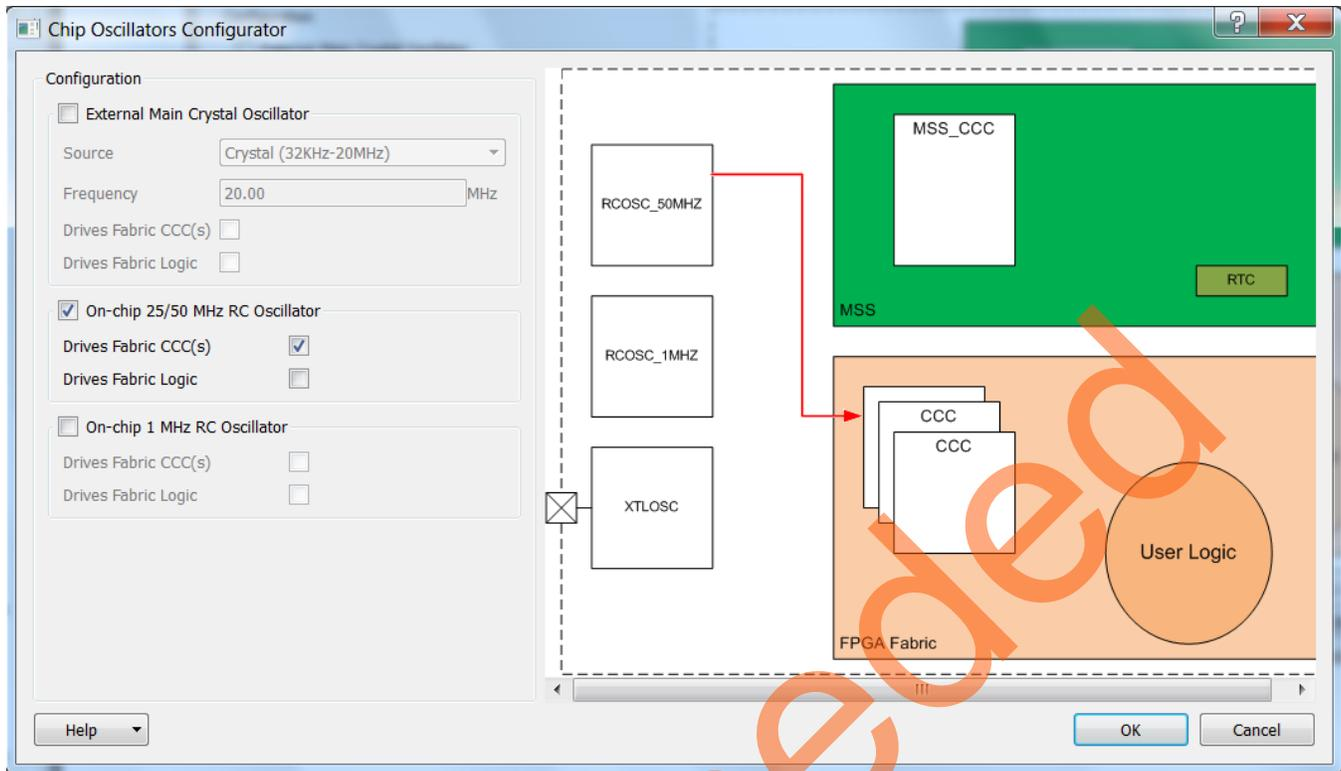

Figure 22. Oscillator Configuration
5. Drag the **Chip Oscillators** IP from the Clock & Management sub-section of the IP Catalog into the SmartDesign. Double-click the **OSC_0** instance to open up its configuration window. Select the following as shown in Figure 22: